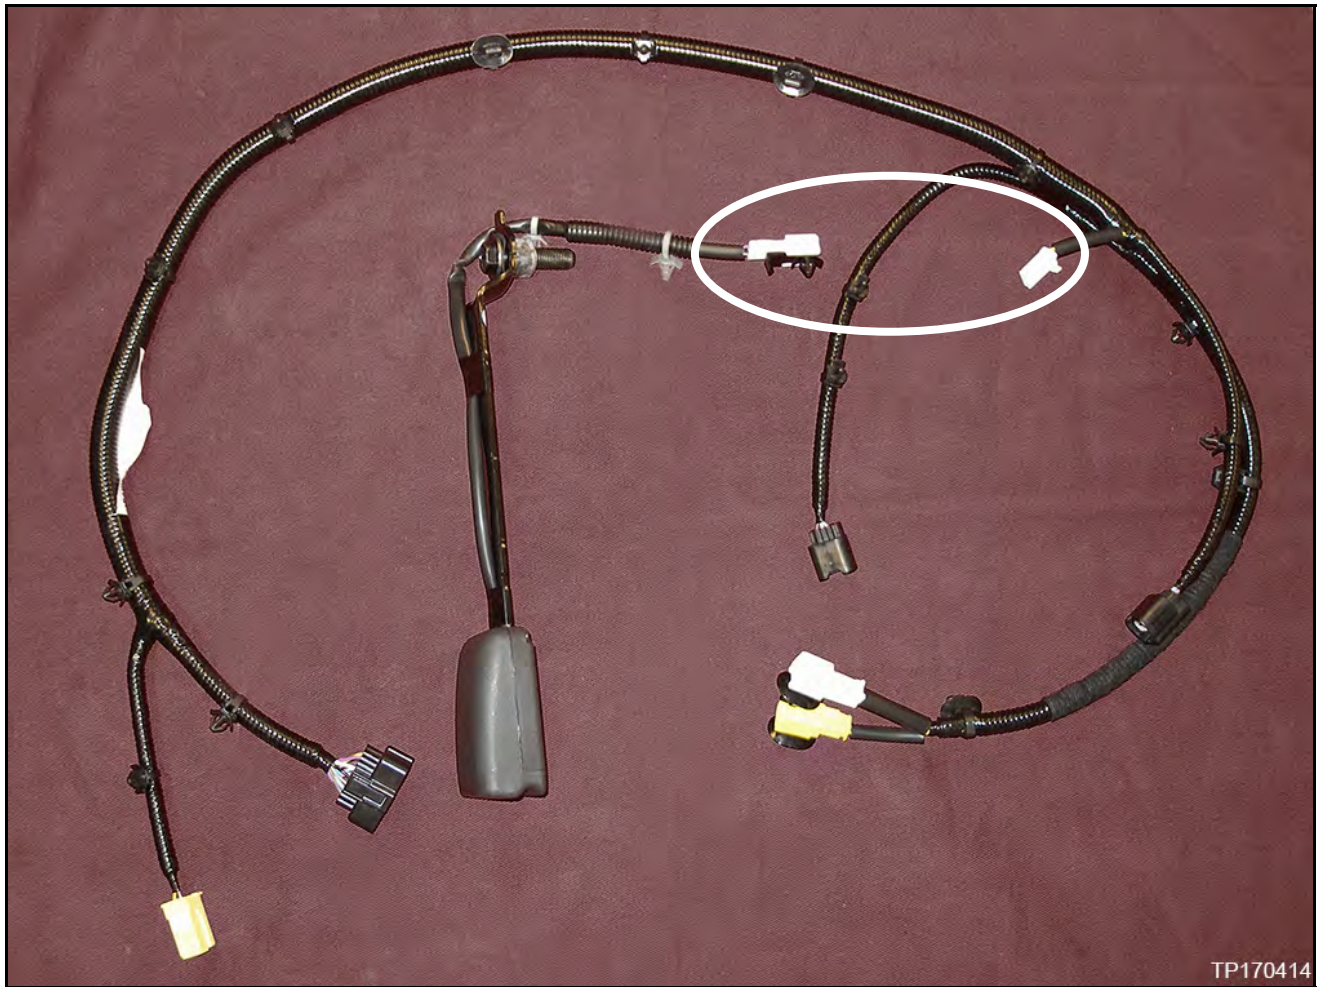

Figure 5
13. Refer to the circled area in Figure 5.